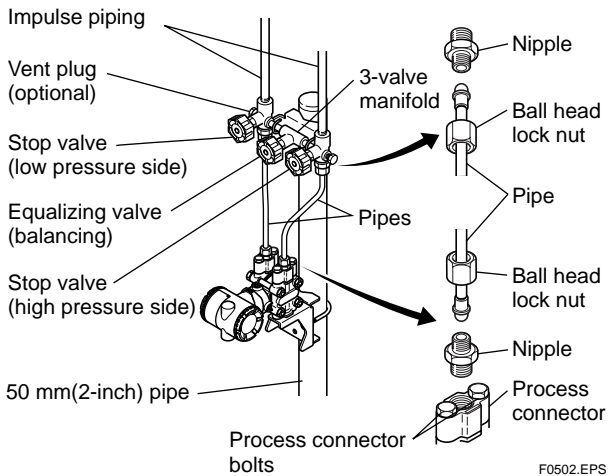

Figure 5.1.1b 3-Valve Manifold (Pipe-Mounting Type)
■ Pipe-Mounting Type 3-Valve Manifold (Figure 5.1.1b)